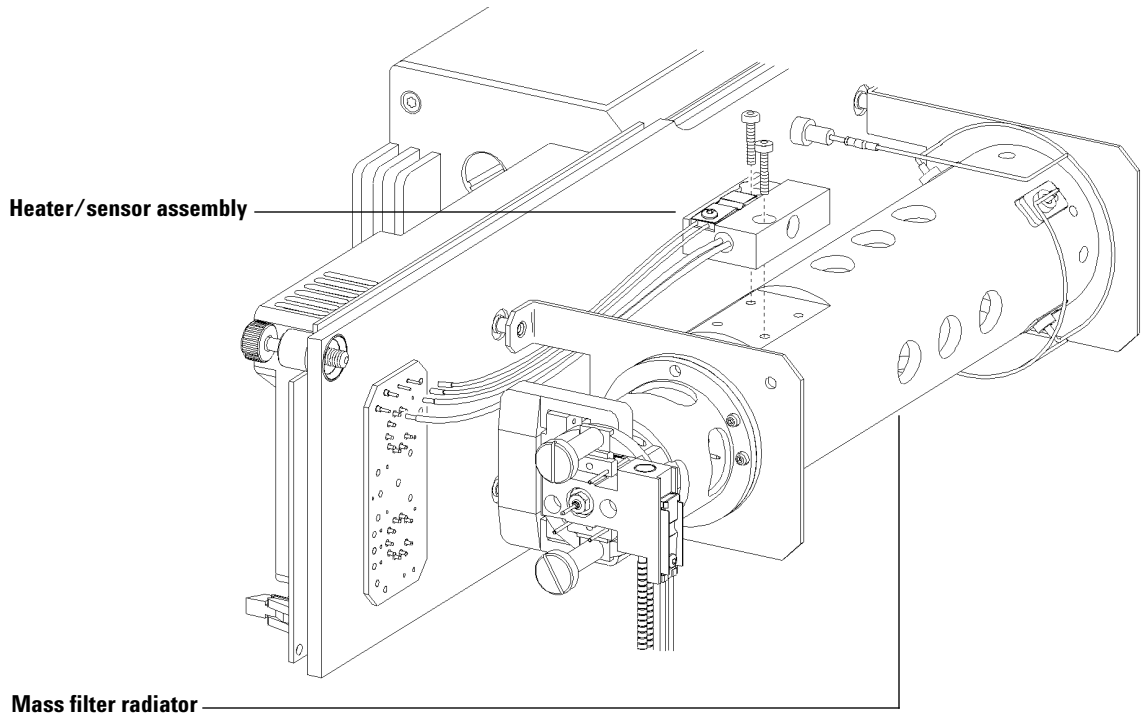

Figure 21 Mass filter heater and sensor
- 1** Unpack the new mass filter heater assembly (Figure 21). The heater, temperature sensor, and heater block are already assembled.